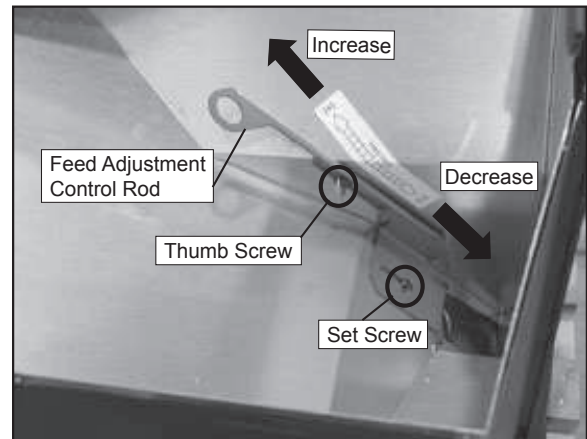

Figure 24.2
1. Loosen the set screw 1/4 to 1/2 turn during set-up of appliance. This will allow movement of the feed adjustment control rod. Do not re-tighten set screw. **Figure 24.2**.